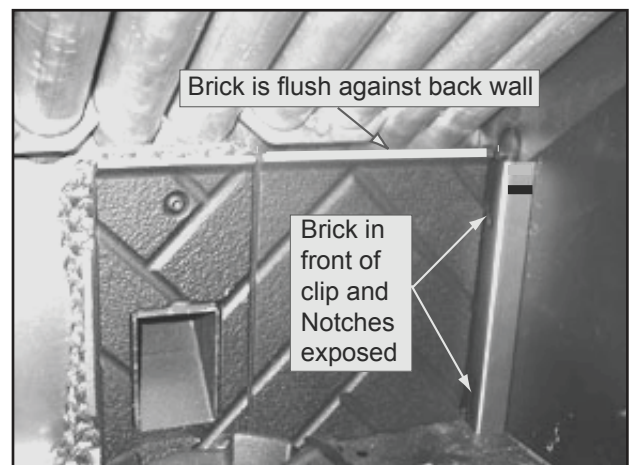

Figure 23.5
2. The brick will be flush against the back wall and the bracket's notches will be exposed. **Figure 23.5.**